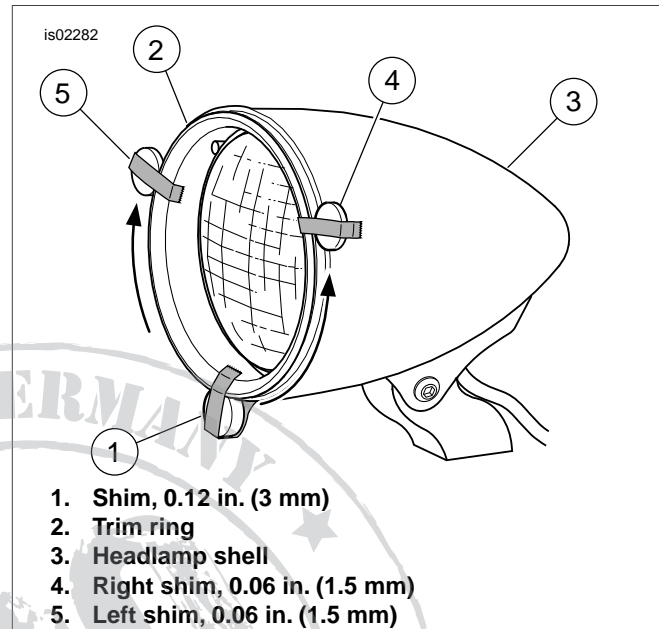

Figure 13. Remove Trim Ring
3. See Figure 13. Insert shim(s) (1) equal to approximately 0.12 in. (3 mm) in gap between trim ring (2) and headlamp shell (3). Tape shim(s) to trim ring and headlamp shell to hold them in place.
4. Insert a 0.06 in. (1.5 mm) shim (4) into gap to the right of shims at the bottom of trim ring, and slide shim in gap counterclockwise until it sticks. The shim should now be